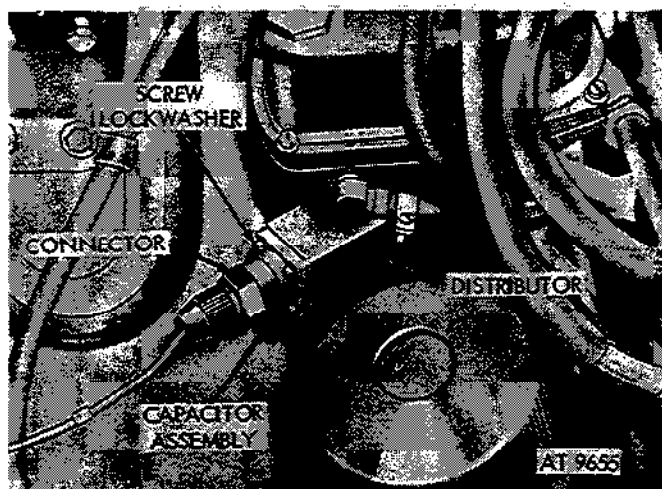

Figure 2-152. Removing or replacing capacitor assembly.
(5) Remove four screws and lockwashers and remove filter capacitor assembly with attached resistor lead. Cut lead to remove capacitor and discard. Retain capacitor mounting hardware and packings (fig. 2-152).
(1) Insert new filter capacitor assembly from outside of distributor base through filter capacitor opening. Existing packing should be placed on capacitor prior to insertion. Use existing hardware to retain capacitor (fig. 2-152).